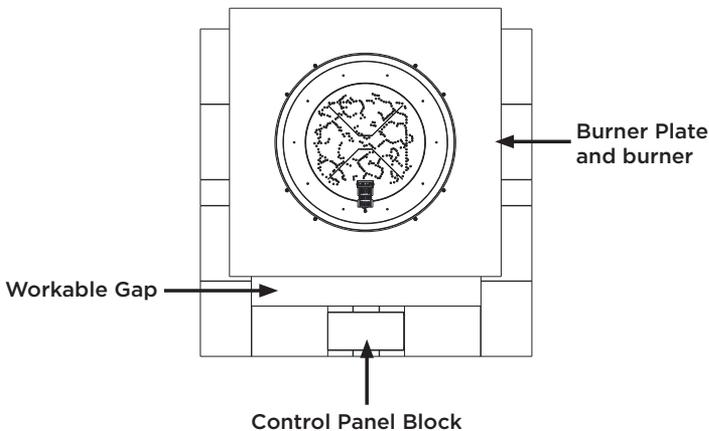

Figure C.4
- Position burner plate on fire pit, leaving a gap between burner plate and control panel block. See diagram on Figure C.4